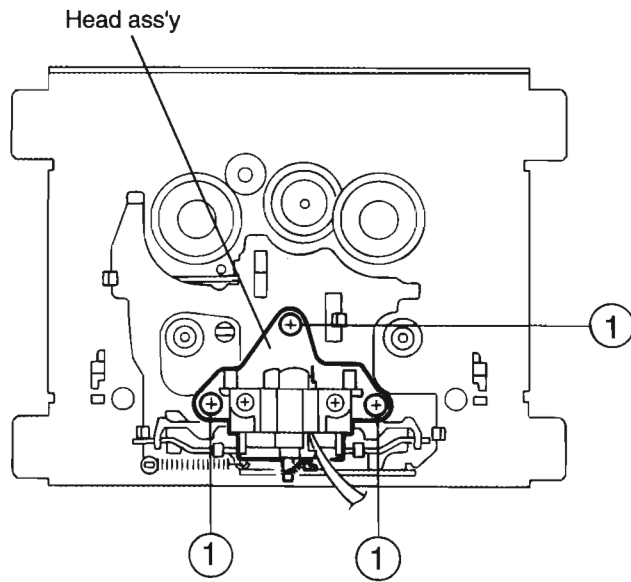

Fig.1
■Head assembly removal(See Fig.1)